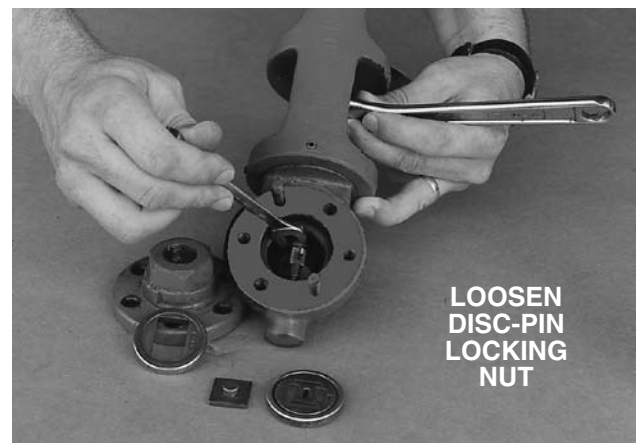

Figure 38
- Loosen the disc-pin locking nut and allow at least 10 minutes for the valve to react (see figure 38).